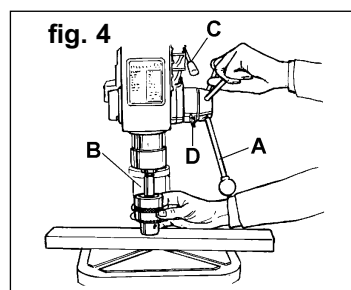
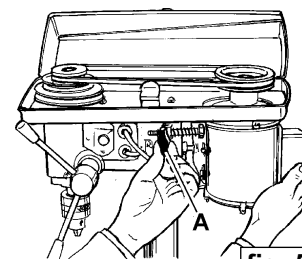

fig. 4
fig. 5
- 5.1.10. Screw the three feed handles and knobs to the hub of the pinion shaft (fig.4.A).
- 5.1.12. Insert larger tapered end of arbor (fig.4.B) into drill spindle - rotate slightly to engage fully, fit chuck to protruding end of arbor and hold in place.
- 5.1.13. Turn feed handles to bring nose of chuck down onto wood (fig.4). Firmly pull on feed handle to seat arbor taper in spindle and chuck.
- 6.3.1. Open the pulley case and loosen the belt tension lock screws attached to the motor. (one each side - fig.5.A).
- 6.4.1. With the belt tension lock screws (fig.5.A) loose, use tensioning lever (fig.4.C) to set tension so that belt give is no more than 1/2" (13mm). Tighten lock screws.
- 6.6.2. Loosen locking screw (fig.4.D) and set the scale to the depth required. Tighten locking screw.